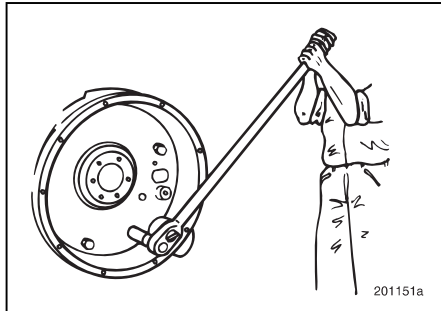

Figure 6-30 — Torquing Flywheel Housing Capscrews
7. Torque all flywheel housing capscrews to 170 lb-ft (231 N·m) using torque wrench J 24407 or equivalent. Refer to Figure 6-30.